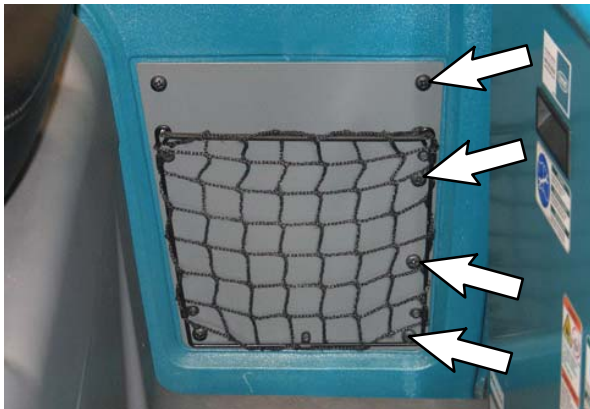

FIG. 12
20. Remove and discard the four M8 hex screws securing the front of the mesh plate to the solution tank. (Fig. 12)